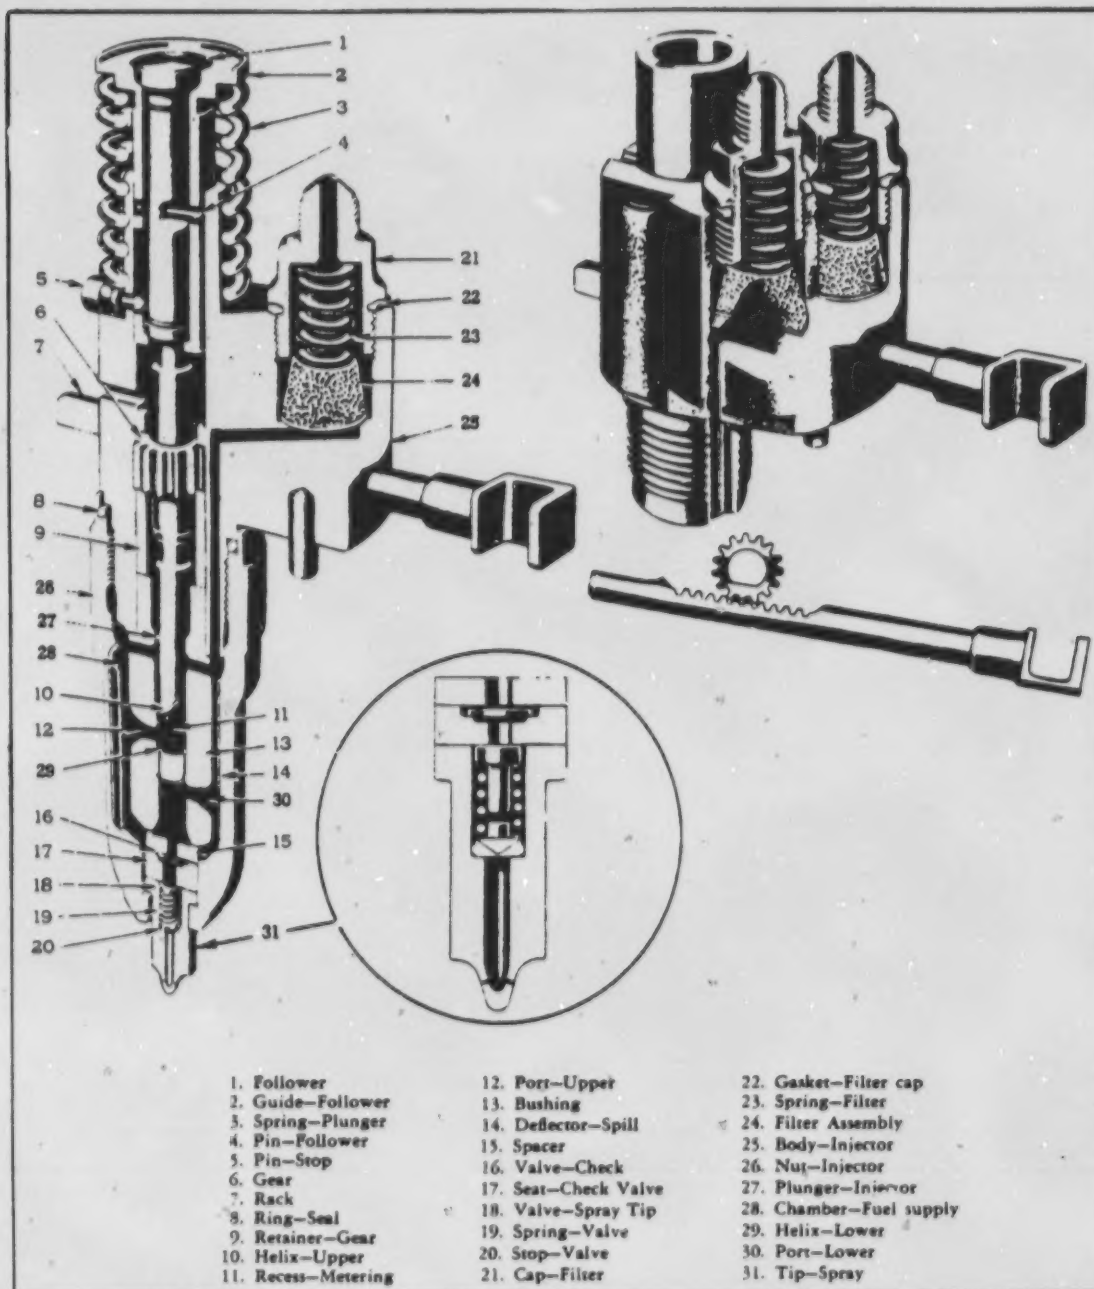
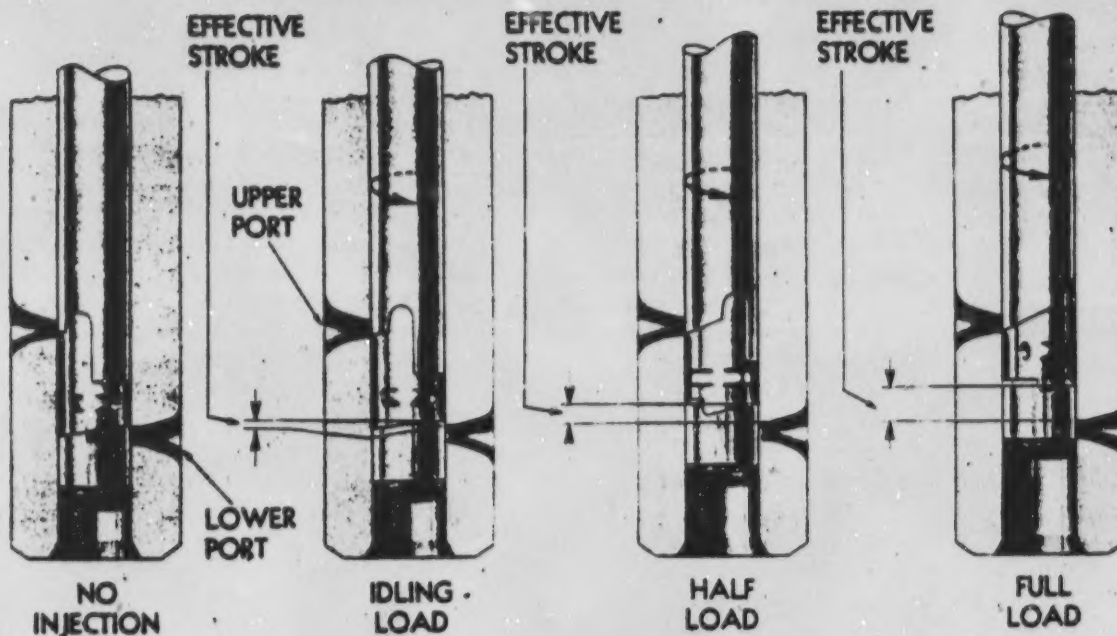

Figure 15. Cross Section of a GMC Injector.
Figure 16. Fuel Metering from FULL LOAD to NO LOAD Produced by Rotating Plunger With Control Rack.
Beneath each fuel line connector in the injector body are small filtering elements, figure 15. The elements are made of a porous material and as they are very hard to clean, they should be replaced with new ones if they become excessively dirty. If old elements are being reused they should be reinstalled in the same openings from which they were removed because fuel passes through the elements used on the inlet connections in the reverse direction from those used on the outlet connections. Small particles of dirt that may have lodged on the inner surface of the outlet filter may be washed into the injector if it is used on the inlet side.
As previously explained, the fuel pressure must be higher than that of the air charge in the combustion chamber so that fuel can be injected into the combustion chamber at the specified time. Besides injecting fuel into the combustion chamber at the specified time, some means must be provided so that only a certain amount of fuel is injected at this time. This fuel also must be atomized for proper burning when it is injected into the combustion chamber. The unit fuel injector combines in a single unit all the parts necessary to perform the above functions. Thus, the fuel injector injects the fuel at the correct time, meters the fuel, creates a high fuel pressure, and atomizes the fuel. This provides a complete and independent injection system for each engine cylinder. The cross section of the injector, figure 15, shows the various parts.
The fuel oil is supplied to the injector at a pressure of approximately 40 psi. The fuel fills the annular supply chamber between the bushing and the spill deflector, figure 15, item 28. The injector plunger, operated by a rocker arm which is actuated by the camshaft, operates up and down in this bushing. The bore of this bushing is connected to the fuel supply in the annular chamber by two funnel-shaped ports, figure 16. In addition to the reciprocating motion,
the plunger can be rotated in operation around its axis. This is accomplished by the gear, figure 15, which is in mesh with the rack. An upper and lower helix are machined into the lower end of the plunger. These helixes, figures 16 and 17, are for metering purposes. The relation of these helixes to the two ports, changes with relation of the plunger. Changing the position of the helixes by rotation of the plunger, retards or advances the closing of the ports which is the same as changing the beginning and ending of injection or the effective stroke. The longer the effective stroke, the more fuel injected.
Note: Reference should be made to figures 16 and 17 for positions of the plunger during fuel metering and injector operation.
PLUNGER ON DOWNWARD TRAVEL. As the plunger moves downward, the fuel in the high-pressure cylinder or bushing is first displaced through the ports back to the supply chamber until the lower edge of the plunger closes the lower port. When this takes place, the remaining fuel is then forced upward through the central passage of the plunger into the recess between the two helixes. From this point the fuel can flow back into the supply chamber until the upper helix closes the upper port. The metered amount of fuel is then forced through the valve assembly, check valve, and against the spray tip valve, figure 15. When sufficient fuel pressure is built up, the spray tip valve is lifted off its seat and the fuel is forced through small orifices in the spray tip and atomized in the combustion chamber.